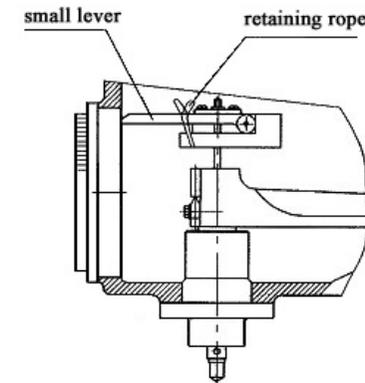

Figure 4
- 6 Take off the retaining rope binding the smaller lever (8), see Fig 4